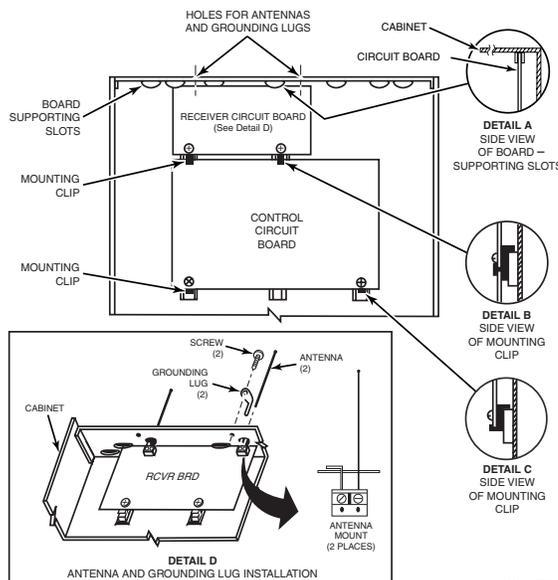

Figure 2. Installing the 5883 Board in the Control's Cabinet (Check the control's Installation and Setup Guide for applicability.)
Mounting inside the control's cabinet (refer to Fig. 2):
- Hang two short (black) mounting clips (provided) on the raised cabinet tabs in the cabinet, as shown in Detail B of Figure 2.
- Mount the module in the selected location. For greatest security, use all four mounting holes (two keyslot holes and two round holes) in the plastic base. (Refer to Detail D in Figure 2 above.)
2. Insert the top of the board into the supporting slots at the top of the cabinet (see Detail A, Figure 2).